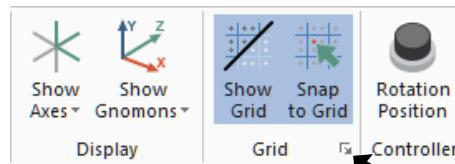

Fig. 3
Step 2. Click the **Dialog Box Launcher** (Alt-G), **Fig. 3**.